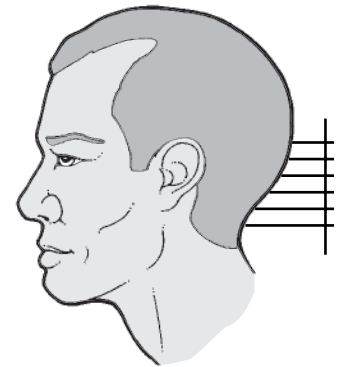

FIGURE 27 | Vertical partings facilitate layering.
- *Vertical* lines are perpendicular to the floor and are described in terms of up and down. Vertical partings facilitate the projection of the hair at higher elevations while cutting. Vertical cutting lines remove weight within the cut and create layers that may be used to cut from short to long, long to short, or uniformly, depending on finger placement (Figure 27).